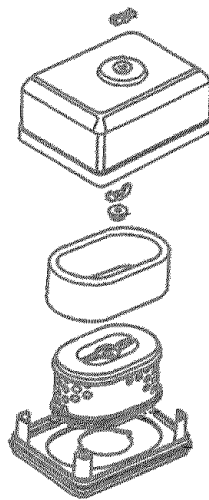

Figure 19- Removing the air filter
1. Unscrew the wing nut from the top of the air filter and remove the plastic case (see figure 19).